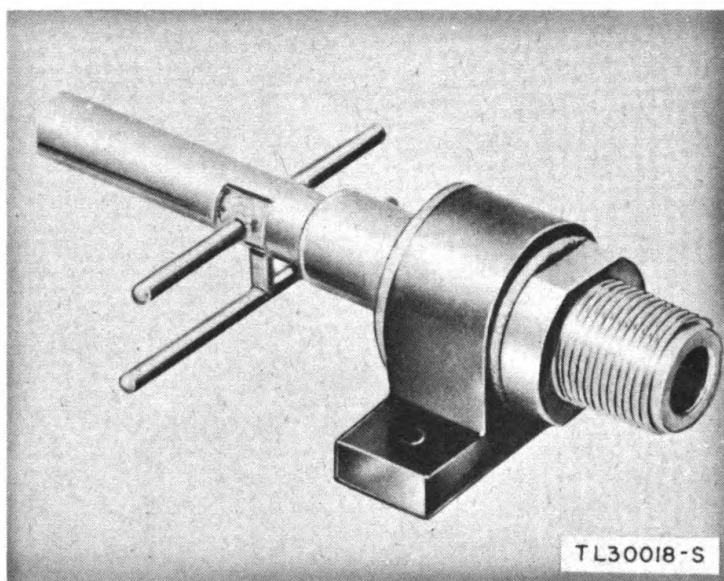

Figure 13. Antenna Assembly AS-23/AP.
15. ANTENNA ASSEMBLY AS-23/AP (fig. 13).